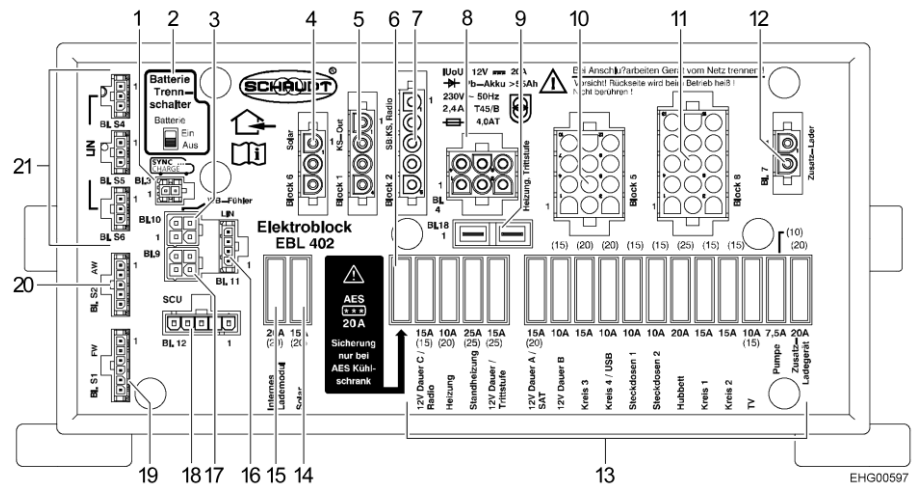

Fig. 145 Transformer/rectifier (EBL 402)
- Move the battery cut-off switch (Fig. 145,2) to the "Aus" (Off) position on the transformer/rectifier EBL 402.
- Move the battery cut-off switch (Fig. 145,2) to the "Ein" (On) position on the transformer/rectifier EBL 402.